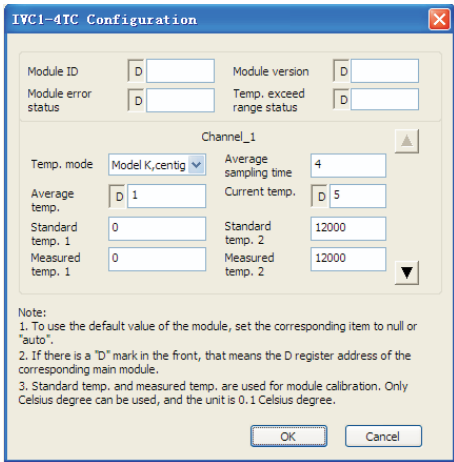
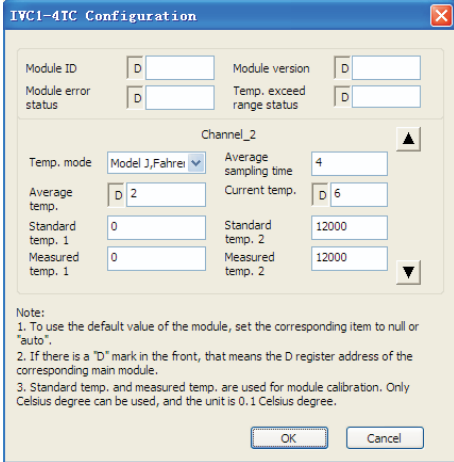

Figure 4-1 CH1 setting interface
Figure 4-2 CH2 setting interface
9. BFM#4094: software version information, displayed automatically as **Module Version** in **IVC1-4TC Configuration** dialogue box of the host software, as shown in Figure 4-1.
The setting interface of output CH1 is shown in Figure 4-1. After the setting, click the downward arrow button → to continue to set CH 2 ~ CH4, whose setting interfaces are shown in figures 4-2 ~ 4-4. For detailed software usage, see *IVC Series PLC Programming Manual*.